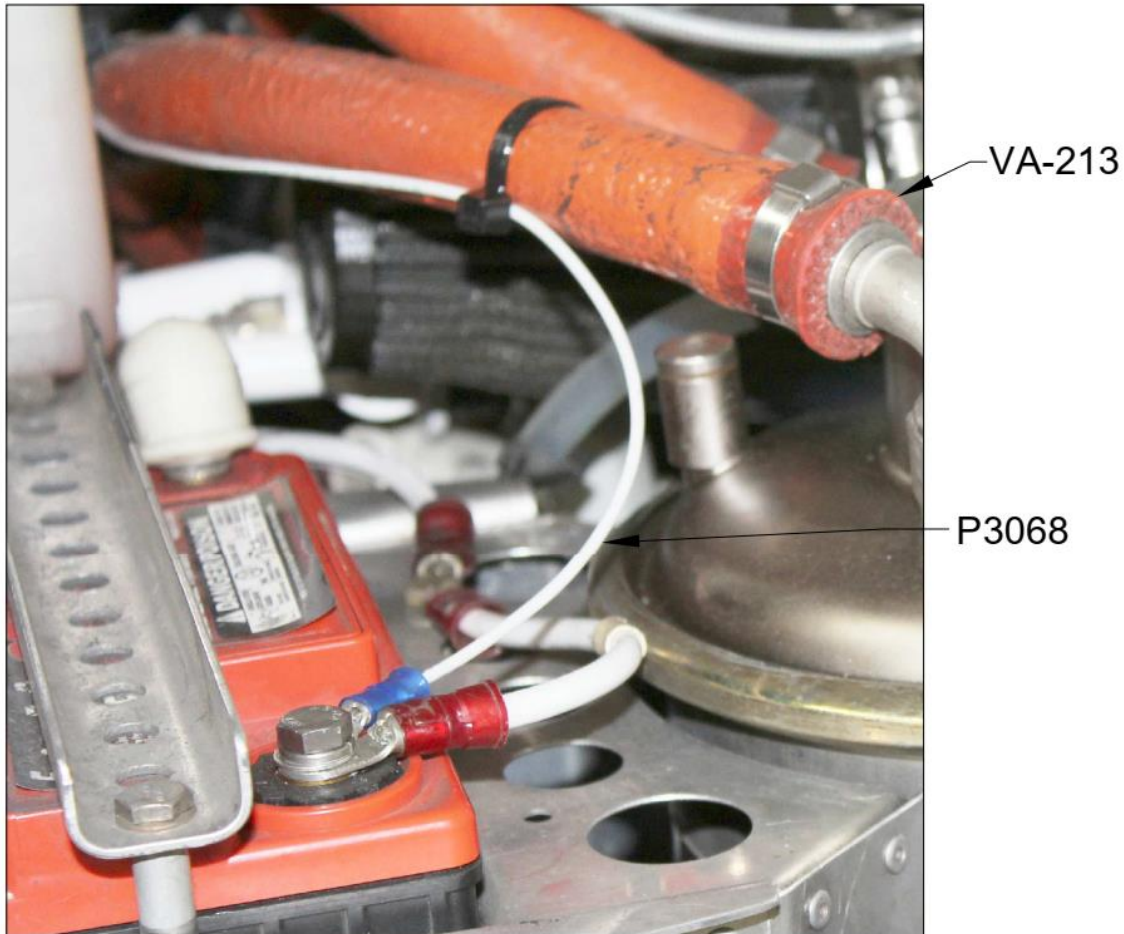

FIGURE 4: ROUTING WH-P3068
Step 12: Add terminals to the ends of the WH-P156 (WHT) wires. These will become P204 and P205. See KAI 46-19 Figure 4.
Step 16: Route the WH-P3068 wire with the wire bundle and then along the VA-213 Oil Supply Hose towards the battery. Connect the ring terminal on WH-P3068 to the minus terminal of the battery See Figure 4. Tie-wrap the wires as necessary for support.